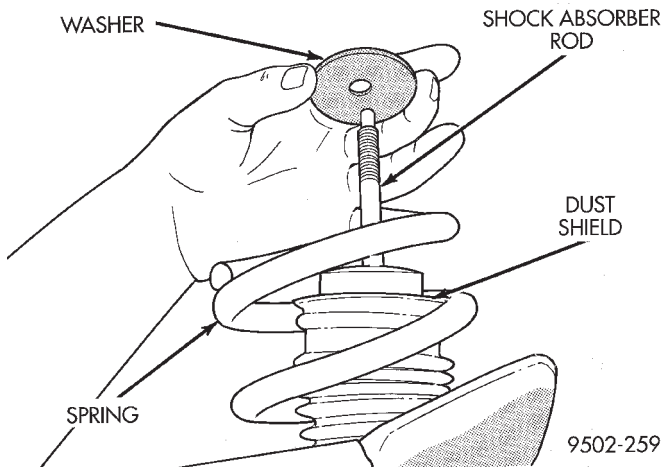

Fig. 92 Shock Absorber Rod Washer
(9) Remove the lower isolator bushing from the shock absorber rod sleeve.
(10) Remove washer from top of dust shield (Fig. 92).
(6) Install bottom washer (Fig. 92) on rod of shock absorber assembly and the top of the dust shield.